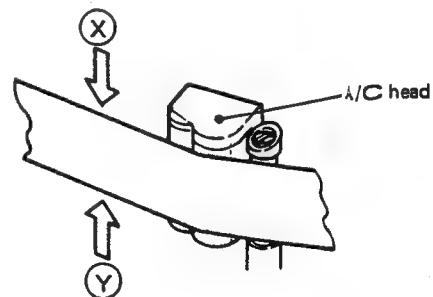

Fig. 2-50 A/C head height check
3. Refer to Fig. 2-50 and gently press point X of the tape downward. Confirm that the TP3 (L-ch) output does not increase by more than 0.5 dB.